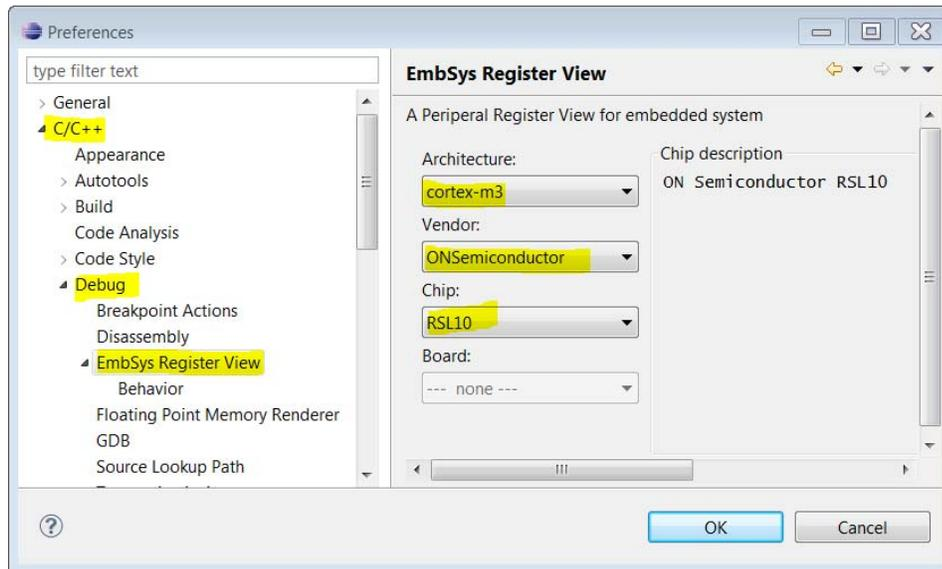

Figure 20. EmbSys Register View Configuration
2. On the left panel, select **C/C++ > Debug > EmbSys Register View** (see Figure 20 on page 23)
3. On the right panel, select **Architecture: cortex-m3, Vendor: ON Semiconductor, Chip: RSL10** (see Figure 20 on page 23)